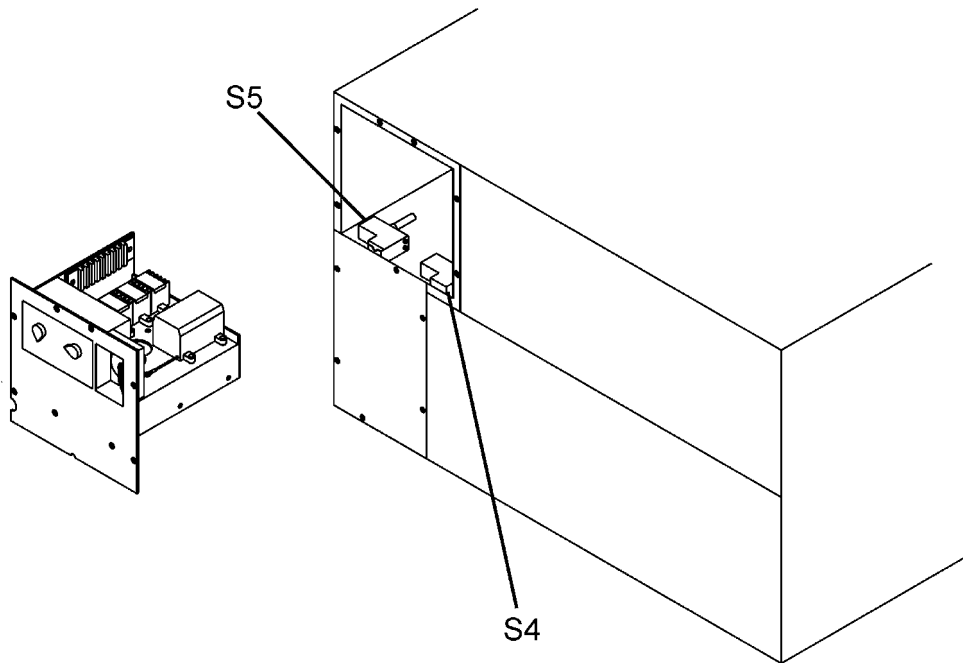

Figure 1. S4 and S5 Cutout Switches Location
- Step 2. Check for open contacts of high-or-low-pressure cut-out switches (S4 and S5). (Refer to figure 1 and WP 0038 00.)